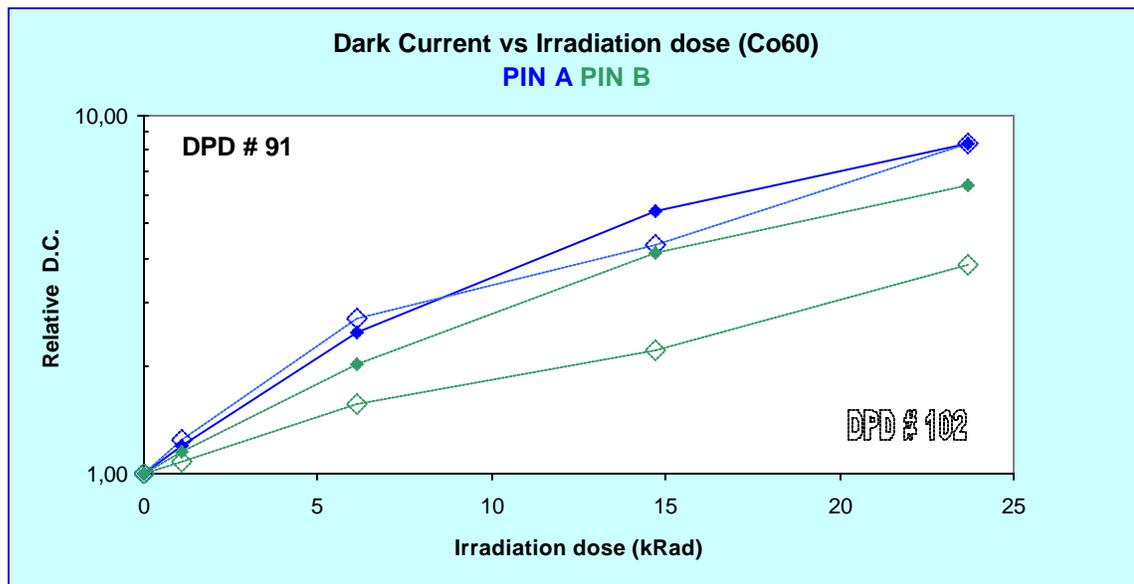

Figure 1: Effect of Radiation on Dark Current (Relative value)
- A great effect of the radiation on the Dark Current (see Fig. 1),
- The D.C. of the PIN A of both DPD was initially identical so the blue curves of figure 1 are very similar (relative value),
- Unlike the D.C. of the PIN B of the 2 DPDs was initially very different (a factor 2) and over 15kRad it become the same, so the green curves of figure 1 are different (relative value),